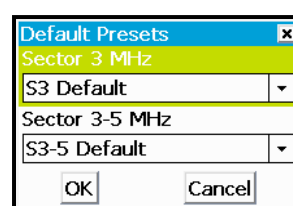

Fig 6.3 Default Presets
- Choose **Default Presets...** to set the default preset for each transducer (Fig 6.3). Select the desired preset from the drop-down list provided. Press **OK** to apply changes.